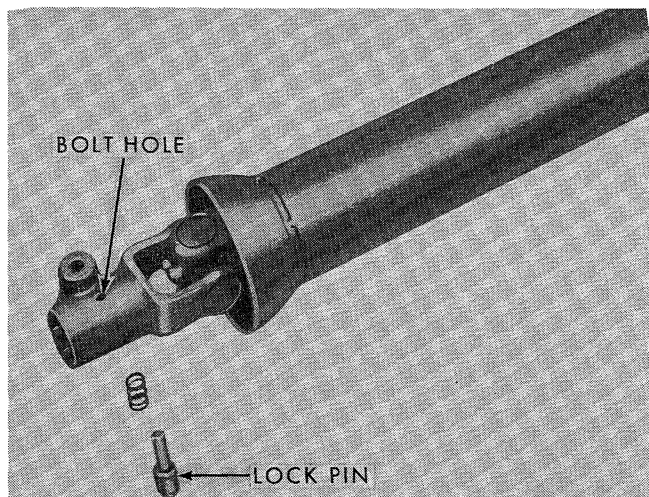

Figure 10
P.T.O. Drive: Depress the spring-loaded lock pin, shown in Figure 10, and slide the universal joint on the tractor P.T.O. shaft until the pin locks in the groove of the shaft.